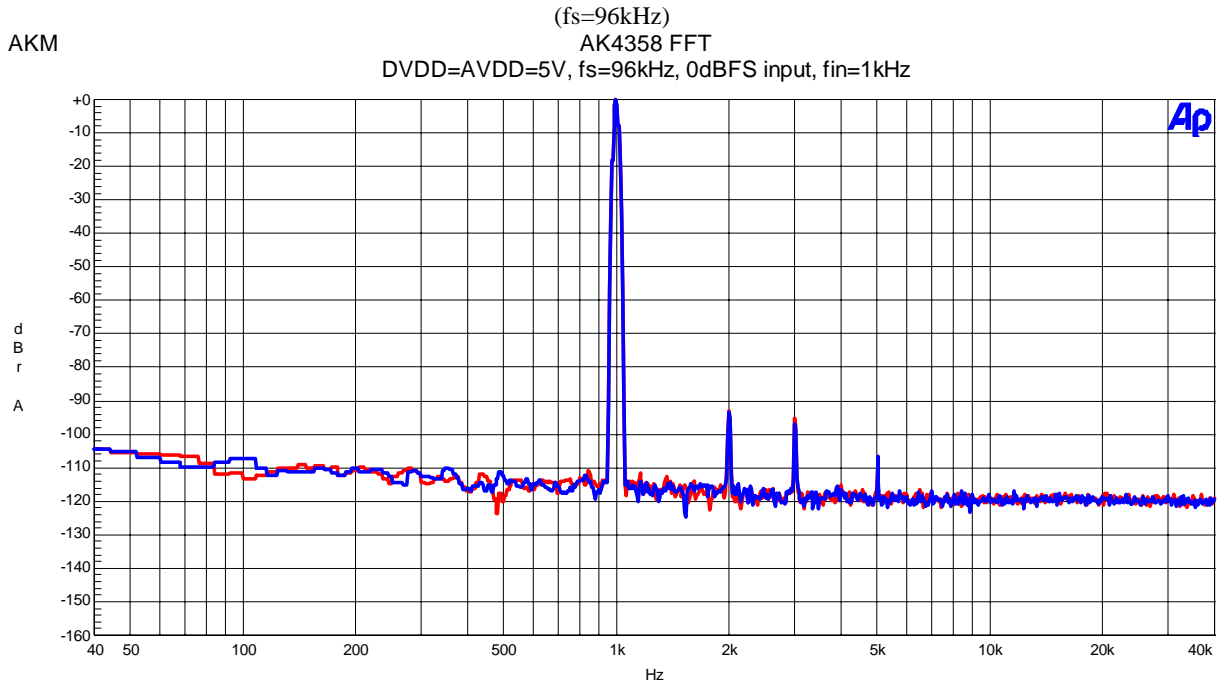

Figure 10. FFT (fin=1kHz, 0dBFS input)
- Figure 10. FFT (1kHz, 0dBFS input)